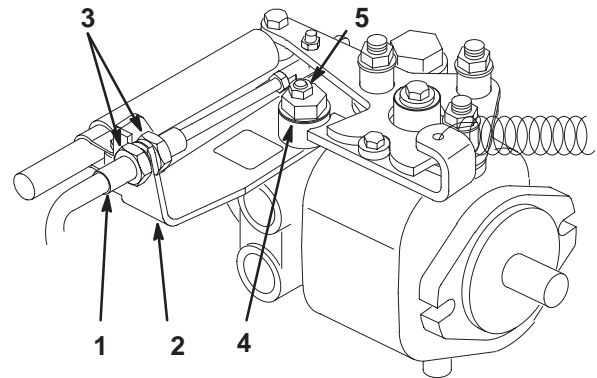

Figure 41
- A. Loosen both jam nuts securing the traction control cable to the bulkhead on the hydrostat (Fig. 41). Make sure the jam nuts are loosened equally and sufficiently to allow adjustment.
- B. Loosen the nut securing the eccentric to the top of the hydrostat (Fig. 41).
- D. Rotate the eccentric until creep does not occur in either direction. When the wheel stops rotating, tighten the nut locking the eccentric and the adjustment (Fig. 41). Verify the adjustment with the throttle in the Slow and Fast position.
- E. From each side of the bulkhead, tighten the locknuts **evenly**, securing the traction cable to the bulkhead (Fig. 41). Do not twist the cable.